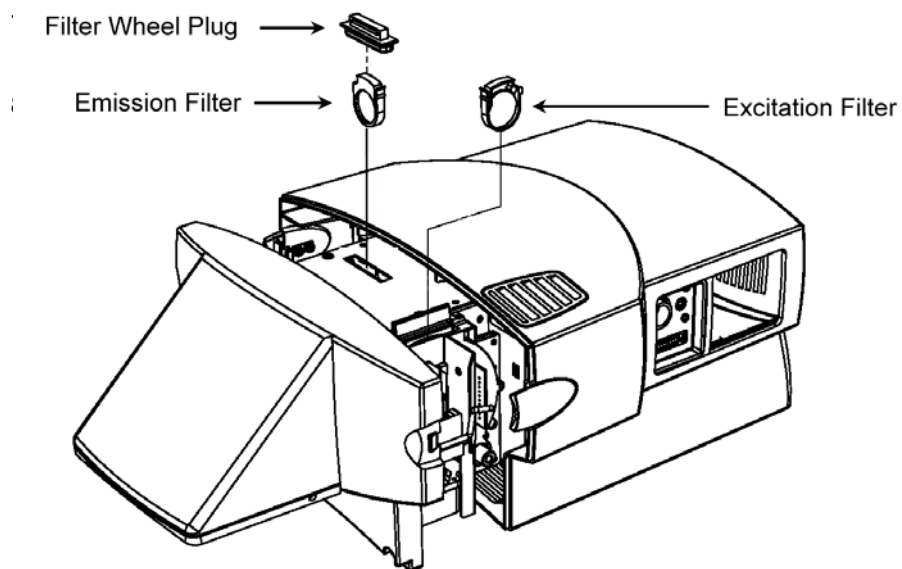

Fig. 1.5. Installing the filters.
3. To access the excitation filter slot, flip open the hatch on the right side of the instrument. To access the emission filter, remove the plug from the slot located on top of the instrument (see Figure 1.5). Changing both types of filters is similar.